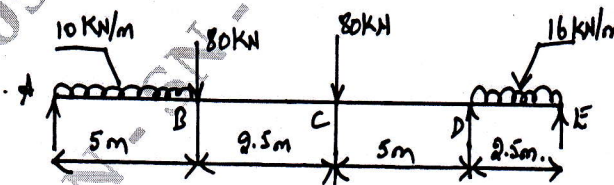

Fig Q5(a)
- 5 a. Draw SFD and BMD for the beam shown in Fig Q5(a). Locate the point of contra flexure if any.